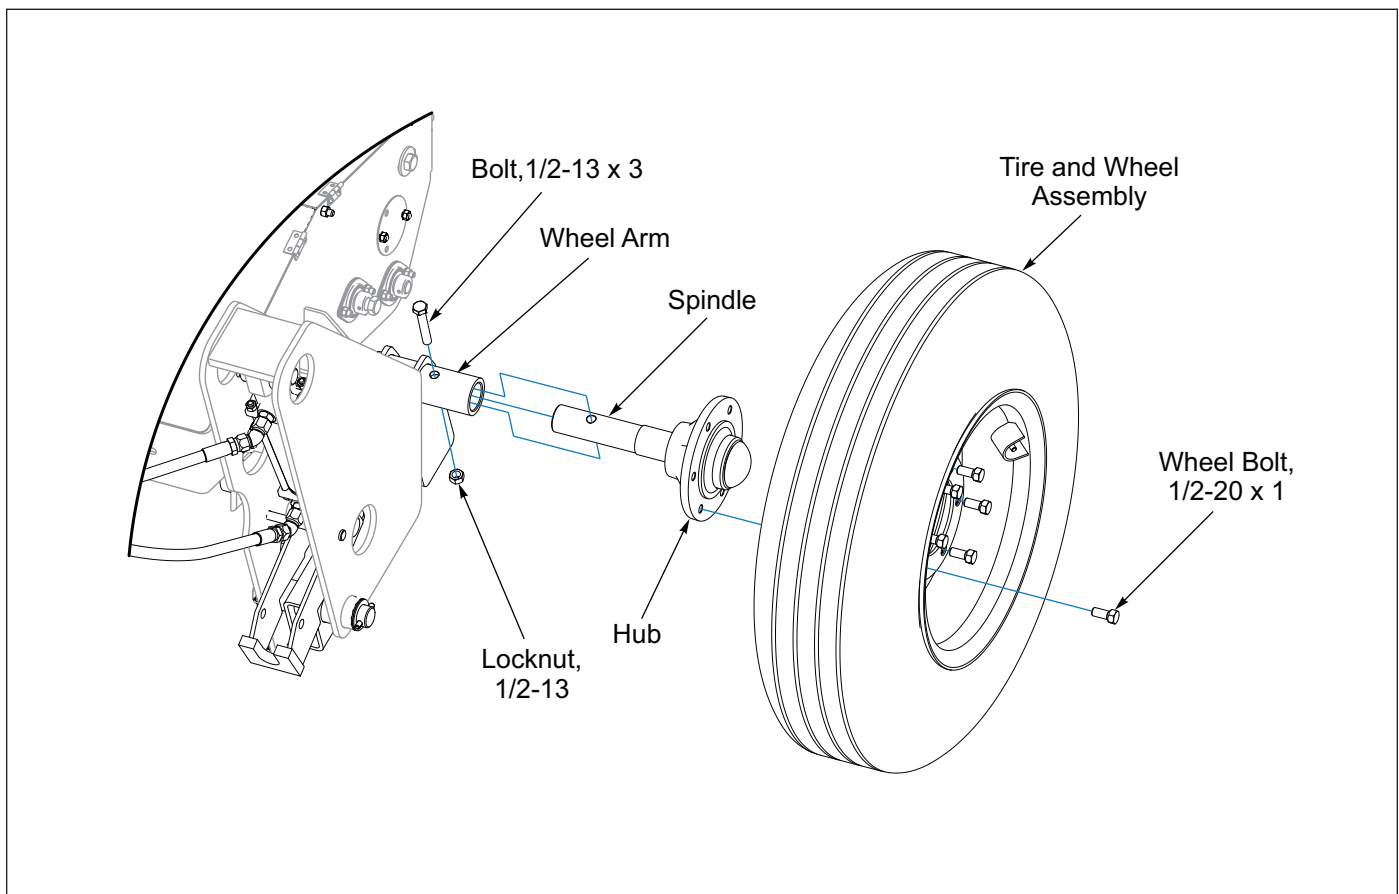

Figure 2-12: Tire and Wheel Installation
5. Apply anti-seize to Spindles and insert a Hub and Spindle Assembly into each Wheel Arm. Secure with 1/2-13 x 3 Bolts and Locknuts. **See Figure 2-12.**
6. Apply anti-seize to Spindles and insert a Hub and Spindle Assembly into each Wheel Arm. Secure with 1/2-13 x 3 Bolts and Locknuts. **See Figure 2-12.**